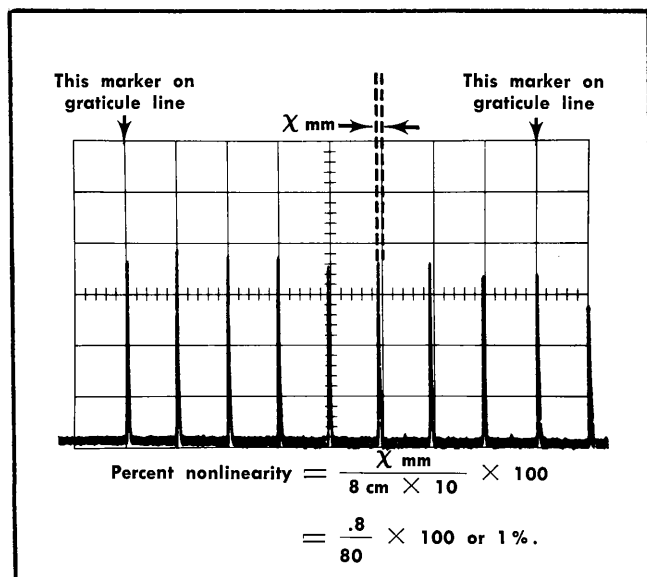

Fig. 5-4. Display illustrates dispersion linearity measurements.
Linearity error is indicated by the maximum distance any marker is displaced from its specified graticule line when compared with an 8 centimeter display. See Fig. 5-4.
a. Check the dispersion linearity as listed in Table 5-5. Each time the settings of the DISPERSION Hz/CM selector and the CENTER FREQUENCY-Hz selector are changed, use the Horizontal Position and VARIABLE DISPERSION controls to position markers under the first and ninth graticule lines as shown in Fig. 5-4. The maximum displacement of any marker from its specified point within the center 8 centimeters of a 10 centimeter display, must not exceed 2.4 millimeters.